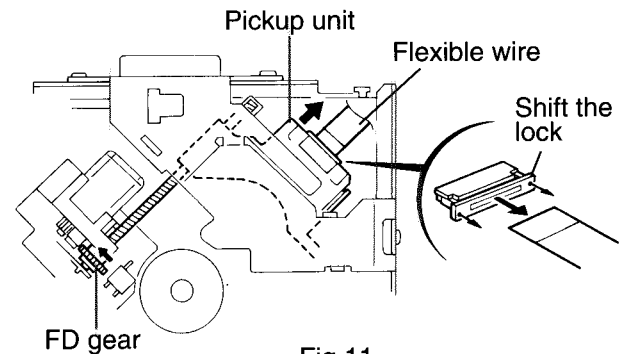

Fig.11
**ATTENTION:** Turn the FD gear in the direction of the arrow to move the entire pickup unit to the appropriate position where the flexible wire of the CD mechanism unit can be disconnected easily (Refer to Fig.11).